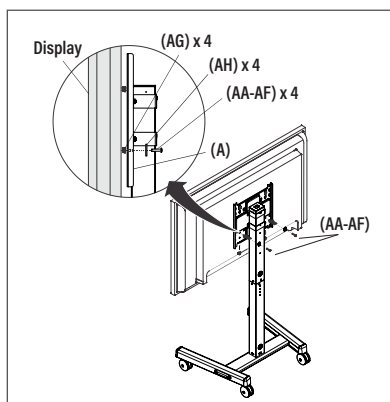

Figure 10
(2) Tighten four screws (AA-AF) in upper and lower mounting slots in face plate assembly (A). (See Figure 10)